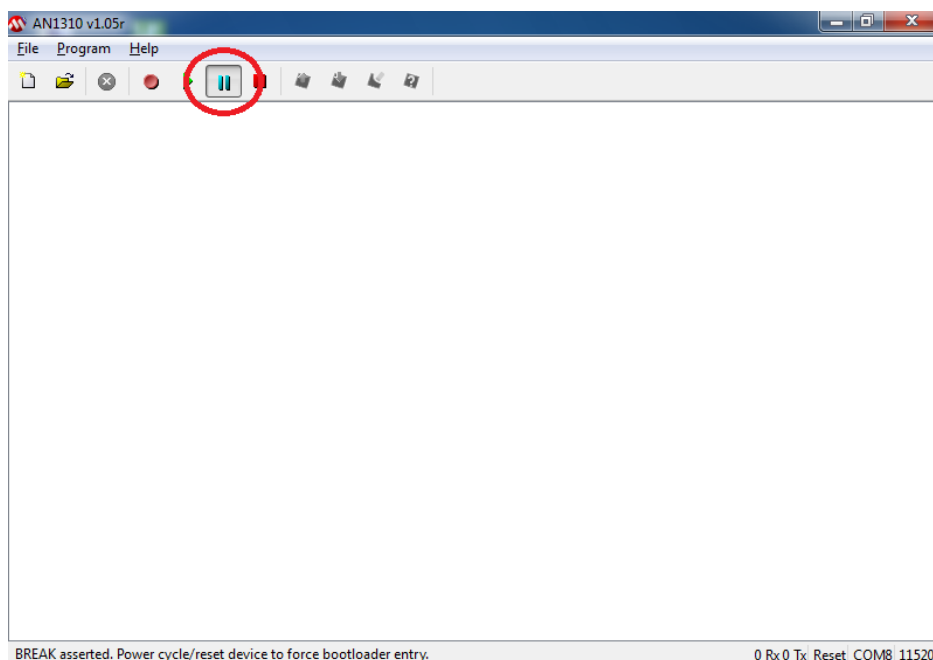

Figure 3.14
4. Press the blue **Break/Reset Mode** button (Figure 3.14). The bottom status bar will request resetting the SP-2000 board.